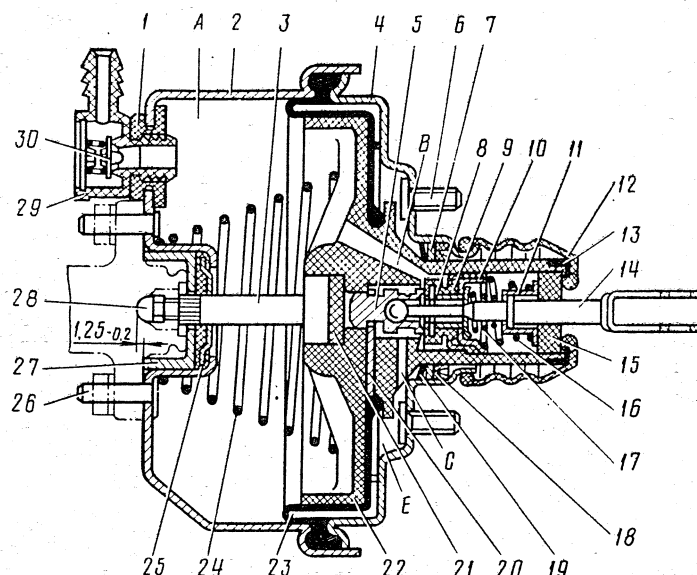

Fig.6-2. Vacuum Brake Booster:
2. Protrusion of vacuum booster adjusting bolt from brake master cylinder mounting surface exceeds 1.25-0.2 mm	2. Adjust protrusion of adjusting bolt (See Fig. 6-2)
With the engine inoperative, press the brake pedal 5 - 6 times thus building up an equal pressure, close to atmospheric, in spaces A and E (Fig.6-2). At the same time see that valve body 22 is not jammed, judging by the force on the pedal.
If the stop light switch is too close to the pedal, the latter fails to come back to the initial position; as a result, valve 9 (Fig.6-2) bears against body 22 and disconnects spaces A and E which causes incomplete releasing of the wheel brakes when the pedal is released.
If it proves impossible to eliminate incomplete releasing of brakes by moving the stop light switch, disconnect the brake master cylinder from the vacuum booster and check the protrusion of adjusting bolt 28 (Fig.6-2) relative to the mounting surface of the master cylinder flange (1.25_{-0.2} mm). This distance can be set by holding the end of rod 3 with a special wrench and turning adjusting bolt 28 in or out with another wrench.